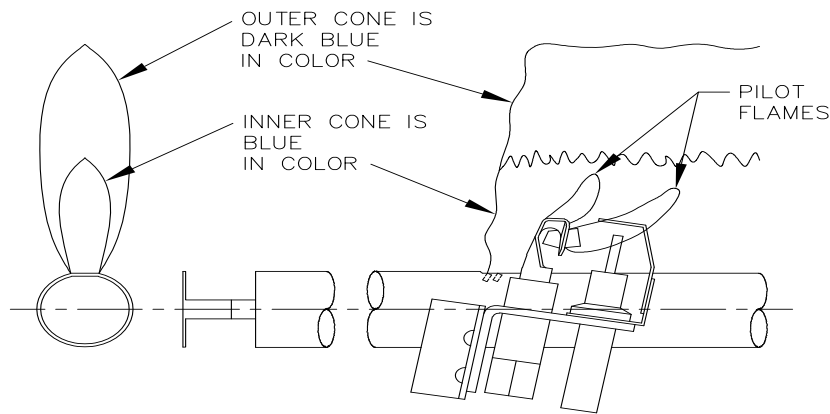

Figure 5: Intermittent Ignition Pilot Configuration and Flames
6. Check pilot flame. See Figure 5. The pilot flame should be medium blue covering approximately 3/8" to 1/2" (10 to 12 mm) of the sensing probe. If the flame is yellow and lazy, follow instructions TO TURN OFF GAS TO APPLIANCE (see Figures 2 & 3) and contact qualified service agency.
7. Check main burner flames. See Figure 5. The flames should have clearly defined inner cones approximately 1-1/2" (40 mm) high and should have a very sharp blue color characteristic. If the flame is yellow and lazy, follow instructions TO TURN OFF GAS TO APPLIANCE (see Figures 2 & 3) and contact qualified service agency.